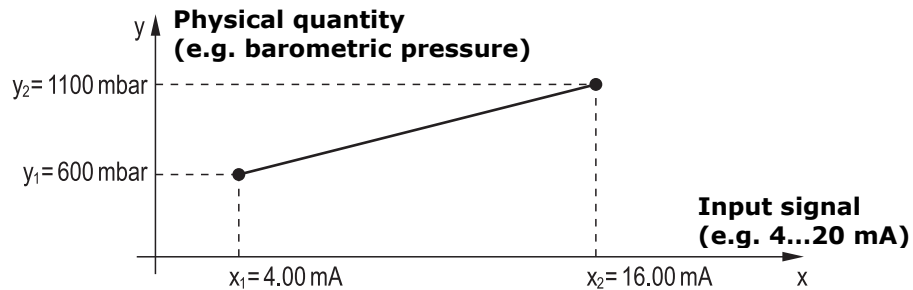

Fig. 13.6.1: example of association of a physical quantity to the acquired signal
3. Set the minimum value of the voltage or current signal (e.g. 4 mA, point X1 of the example at Fig. 13.6.1). Set the first digit using ▲ and ▼, then select the "-->" command (**F2** key) to move to the next digits (the currently selected digit flashes). To return to a previous digit, select the "<--" command (**F1** key). After setting all the digits, press **OK** (**F3** key) to confirm the value.
4. Set the maximum value of the voltage or current signal (e.g. 16 mA, point X2 of the example at Fig. 13.6.1). Set the first digit using ▲ e ▼, then select the "-->" command (**F2** key) to move to the next digits (the currently selected digit flashes). To return to a previous digit, select the "<--" command (**F1** key). After setting all the digits, press **OK** (**F3** key) to confirm the value.
- Set the minimum value of the physical quantity to be associated to the voltage or current values (e.g. 800, point Y1 of the example at Fig. 13.6.1). Set the first digit using ▲ and ▼, then select the "-->" command (F2 key) to move to the next digits (the currently selected digit flashes). To return to a previous digit, select the "<--" command (F1 key). After setting all the digits, press **OK** (F3 key) to confirm the value.
- Set the maximum value of the physical quantity to be associated to the voltage or current values (e.g. 1100, point Y2 of the example at Fig. 13.6.1). Set the first digit using ▲ and ▼, then select the "-->" command (F2 key) to move to the next digits (the currently selected digit flashes). To return to a previous digit, select the "<--" command (F1 key). After setting all the digits, press **OK** (F3 key) to confirm the value.